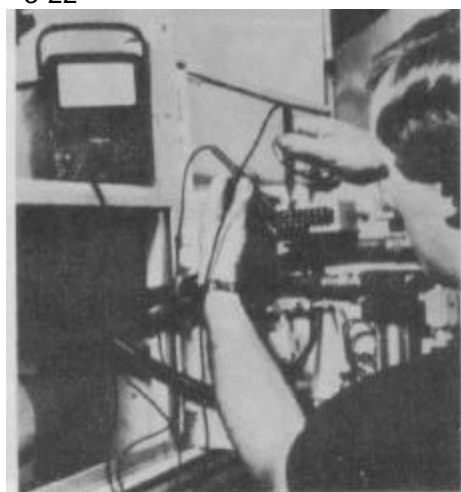

Figure 3-22
- B. A volt-ohm-meter with the selector knob set for 50 volts D.C. is required. Place the test leads on terminals 44A and 9 (negative). The terminals are found on terminal strip, TS3, at the tip of the hydraulic door assembly. Fig. 3-22